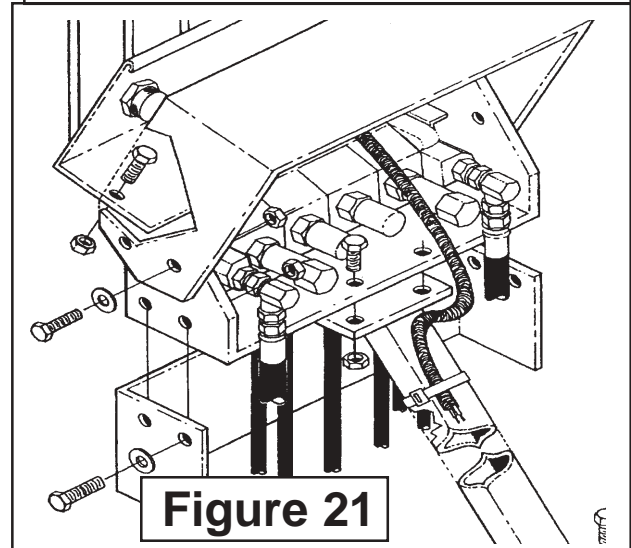

Figure 21
26. Install the small pump pressure hose to pump. The pressure hose connects to the RH side of the small pump and is run down the RH side of the frame with the return hoses (See Figure 21)
29. Connect Pressure & Return Hose to Cylinder Control valve. Connect the pressure hose running from the RH side of small pump to RH Top side of control valve, The port will be marked with a "P" cast into it, the other end is connected to the small supply pump (See Figure 21). Connect the return hose that is connected to the Tee Fitting of the return filter to the Return side of the control valve with a "T" cast into it (See Figure 24 & 25)
3. Attach Control Valve to the Valve Stand. Attach Control Valve to the Valve Stand with (2) 3/8" x 1" bolts, (2) 3/8" locknuts. Attach the Top Cover and the Bottom Cover to the Valve Mount Bracket with (8) 3/8" x 1" bolts, (8) 3/8" washers and (8) 3/8" locknuts (See Figure 21).